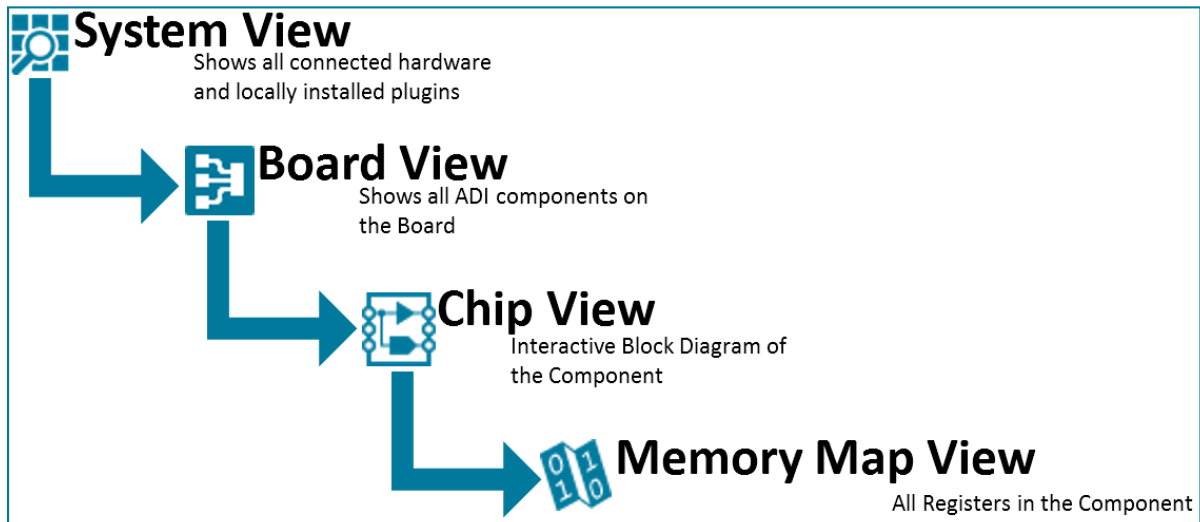
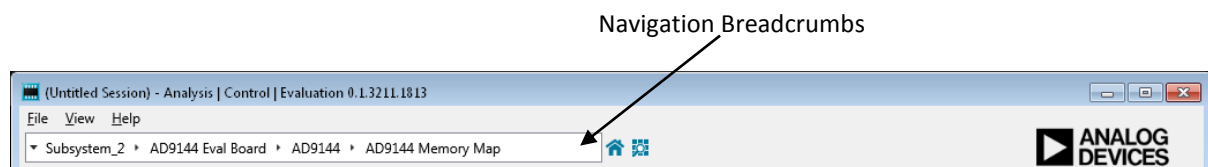

Figure 3.1 Software Hierarchy
Figure 3.3: Navigation Breadcrumbs
The user interface (UI) of ACE is based on a hierarchy of views which mirrors the evaluation setup from the system level to the register level, see Figure 3.1. It is designed to educate the user in the functional
Navigation through the UI is designed to mimic stepping down through the hardware hierarchy, as outlined in Figure 3.1. This can be done from within the main view or from the navigation breadcrumbs, Figure 3.3.